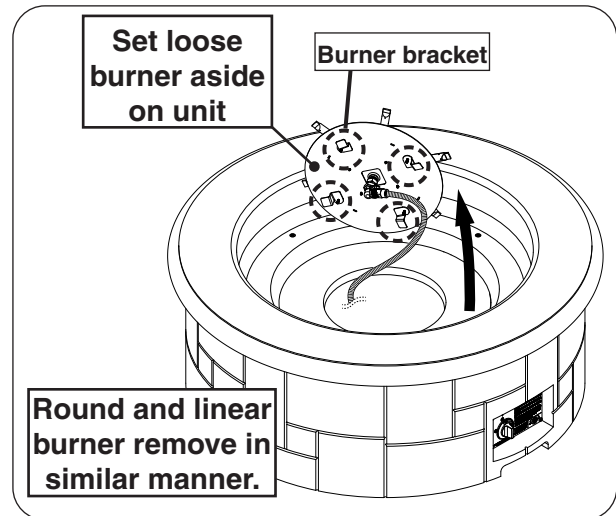

Fig. 28-2 Remove burner assembly
2. Use a $\frac{5}{16}$ " nut driver to partially unfasten the four or eight screws found on the burner assembly. Then carefully remove the burner and set it off to the side. See Fig. 28-2.